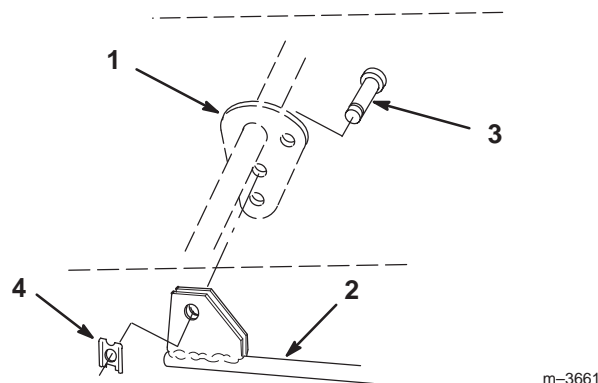

Figure 14
8. From beneath the tractor, connect the snowthrower rod assembly to the middle hole in the attachment lift plate with the 1" (25 mm) clevis pin and clip (Fig. 14).